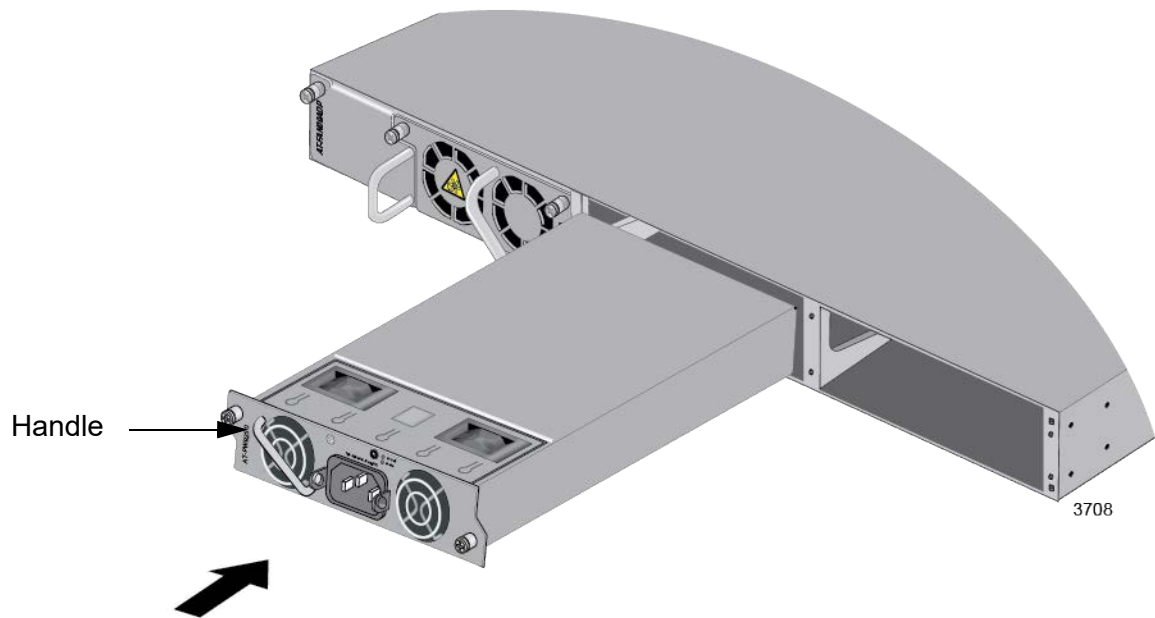

Figure 24. Installing a Power Supply
- Slide the new power supply into slot A or B in the back panel of the switch. Refer to Figure 24 on page 77.
- The handle on the power supply should be on the left as you install the module in the switch. Refer to Figure 24 on page 77.